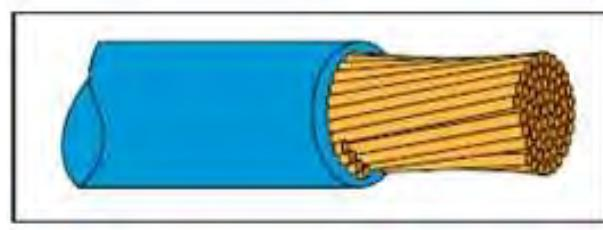

Figure 151
(5) Inspect wire strands as follows:
a. Broken, nicked, or cut strands as listed below and shown in Figure 151.